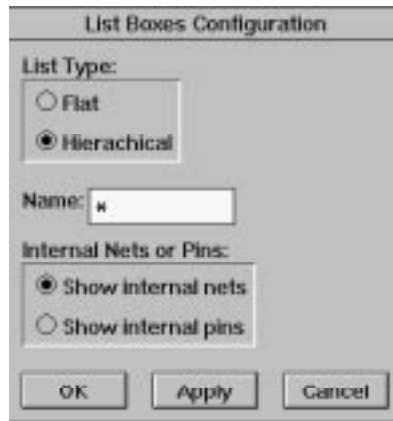

Figure 7-4. Explore List Box Configuration Dialog Box
1. **Open the List Boxes Configuration dialog box.** Choose the Configure List Box command from the Options menu. The List Boxes Configuration dialog box is displayed (Figure 7-4).